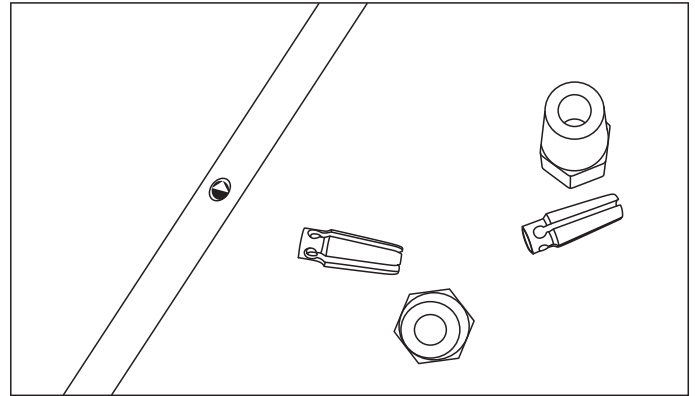

Fig. 5
- Open the cones on each end and remove the inner jaws (Fig.5).